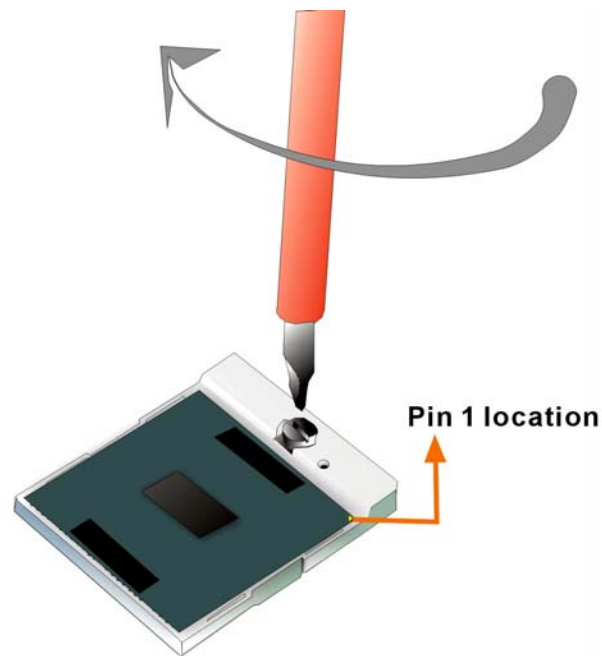

Figure 5-2: Lock the CPU Socket Retention Screw
Step 7: Lock the retention screw. Rotate the retention screw into the locked position. See Figure 5-2.